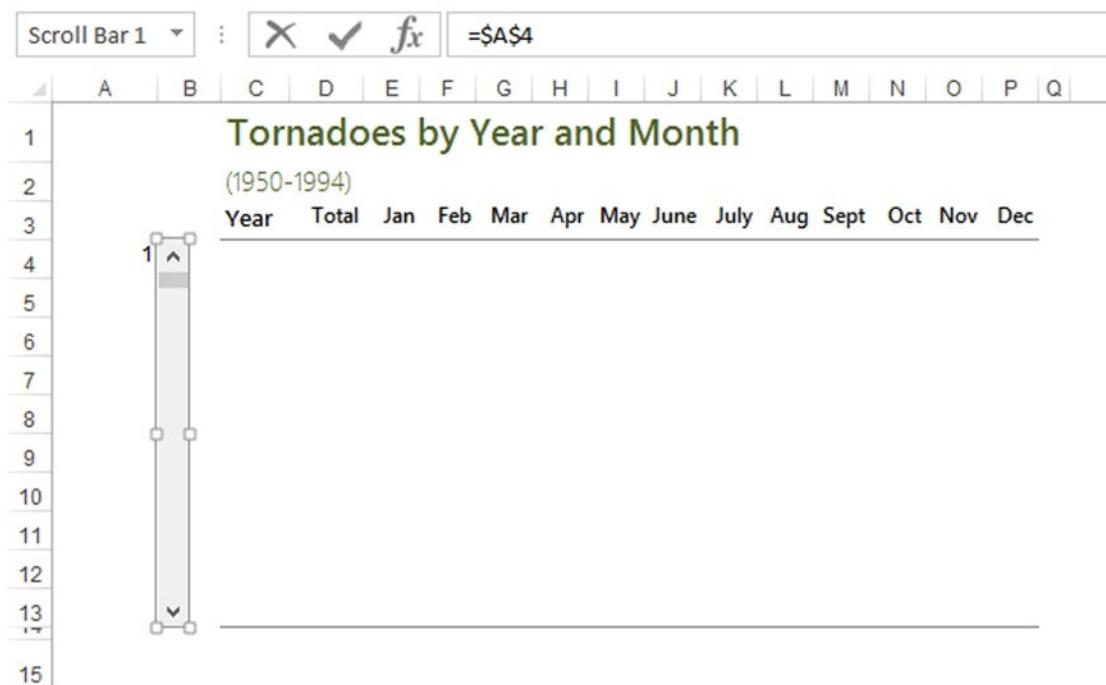

Figure 16-25. Assigning the scroll bar to a cell value
1. To start, insert a new scroll bar into the empty spreadsheet tab in the example file. After that, you must assign a scroll bar to a cell that will hold it. In this example, assign it to A4. This is shown in Figure 16-25.